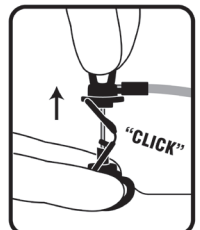

Figure 6
2. While maintaining Pro-Lock base against patient, pull wings up vertically to remove the needle from the port. Fully retract the needle to ensure the needle point is positioned within the protective well. USER WILL HEAR AND FEEL LOCKING MECHANISM LOCK IN PLACE (Fig. 6).
16. With available hand, firmly grasp wings between thumb and forefinger, while maintaining Pro-Lock base against patient, pull wings up vertically to remove the needle from the port. Fully retract the needle to ensure the needle point is positioned within the protective well. **USER WILL HEAR AND FEEL LOCKING MECHANISM LOCK IN PLACE** (Fig. 6).